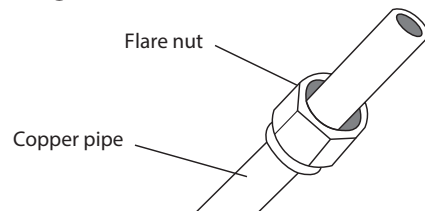

Fig. 7.3
3. Place flare nuts on both ends of pipe. Make sure they are facing in the right direction, because you can't put them on or change their direction after flaring. See Fig. 7.3